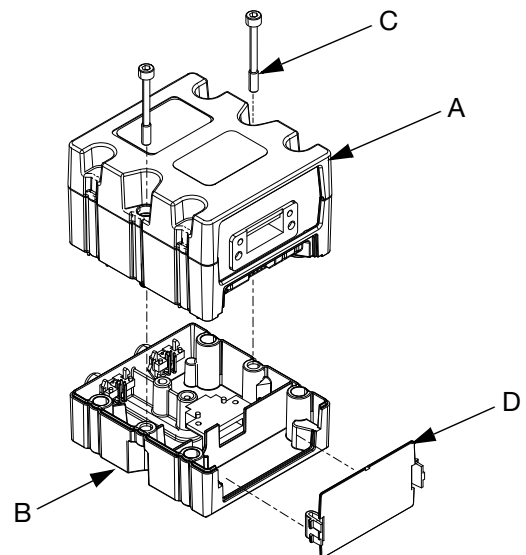

FIG. 49
1. Remove the access cover (D). Loosen the two screws (C) and remove the CGM from the base (B). See FIG. 49 .